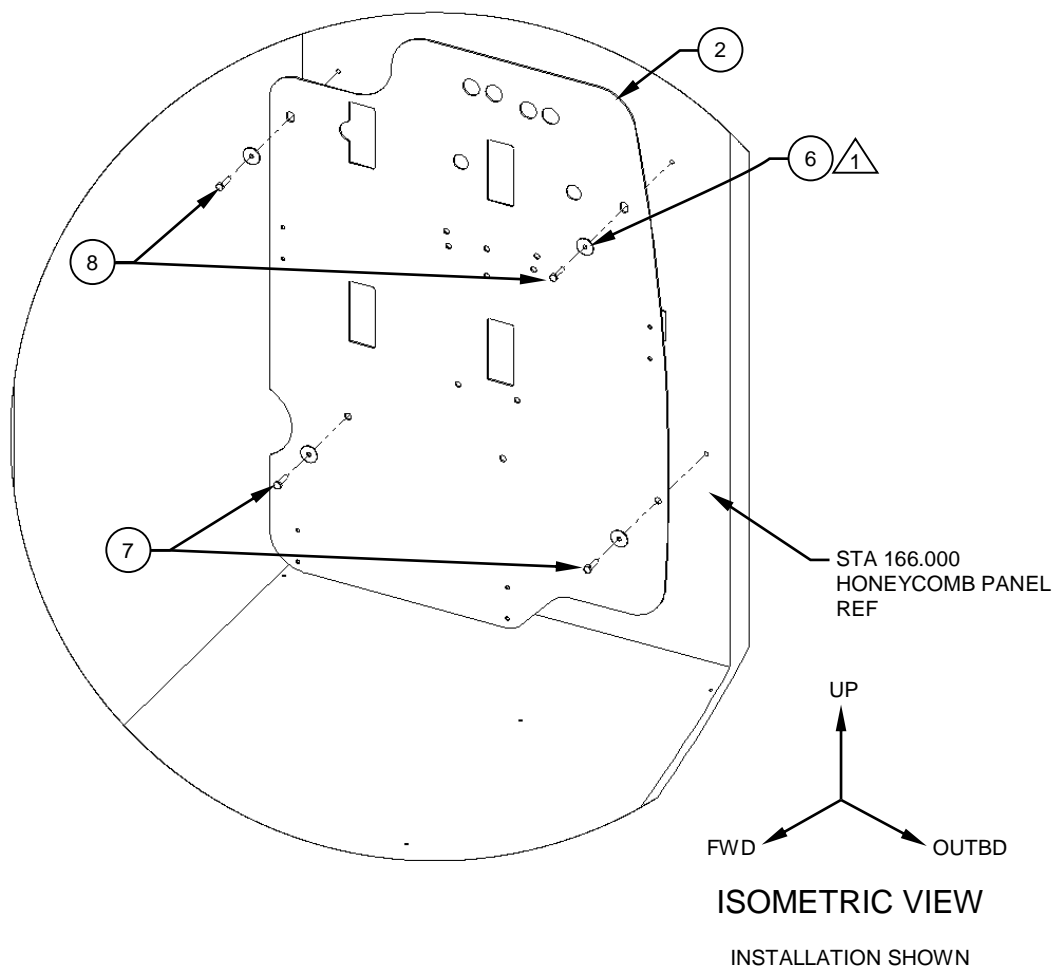

Figure 2
3. Position the Aft Cabin Bulkhead Protector LHS, Assy (Item 2), with respect to the coordinating inserts. Install using supplied hardware (Items 6, 7 & 8). Reference Figure 2.